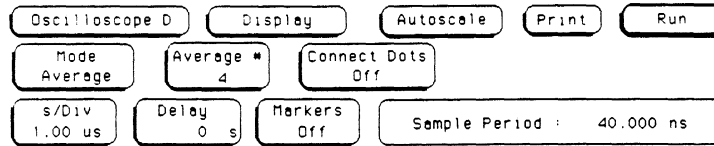

Figure 3-9. Display Configuration
- c. Configure **Display** screen as shown in figure 3-9.